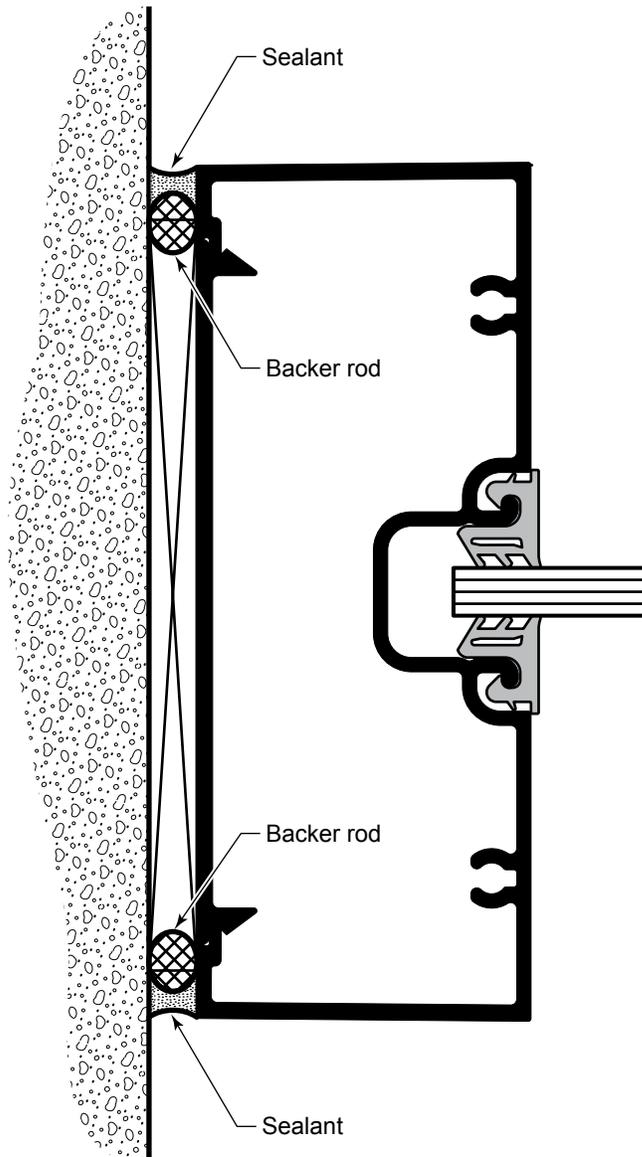

Fig. 39.1
- B. Insert backer rod into the gap between the frame and the building substrate on top, sides and bottom of the installation as shown in **Fig. 39.1**.